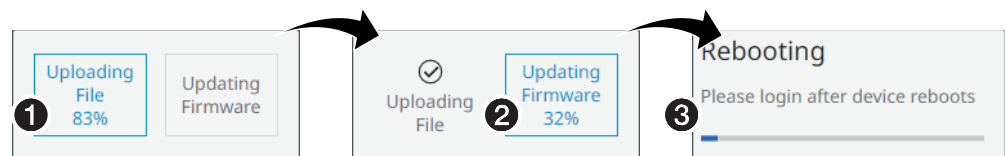

Figure 78. Firmware Upload Progress
8. Click **Update** (❷).
The NAVigator page displays a sequence that reports the progress as it uploads the file (see figure 78, ❶), updates the firmware (❷), and then reboots (❸).